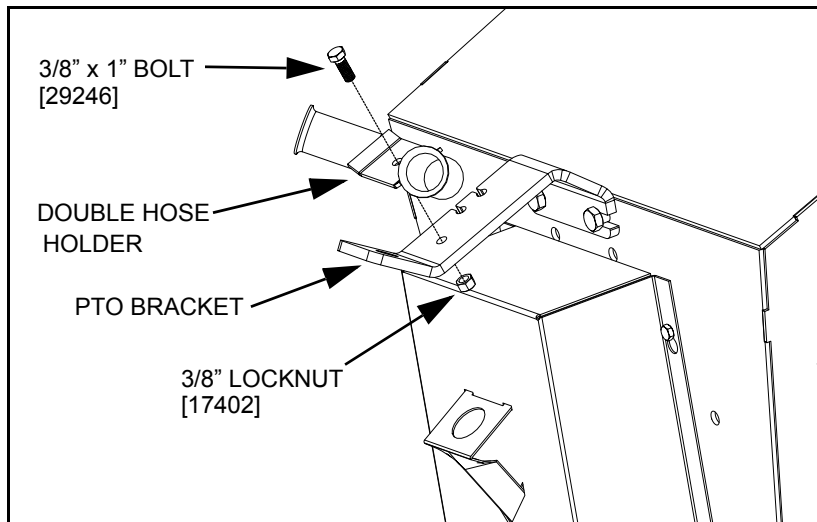

Figure 4 Attaching Double Hose Holder
6. Attach the double hose holder to the PTO bracket with a 3/8" x 1" bolt and locknut (see Figure 4).